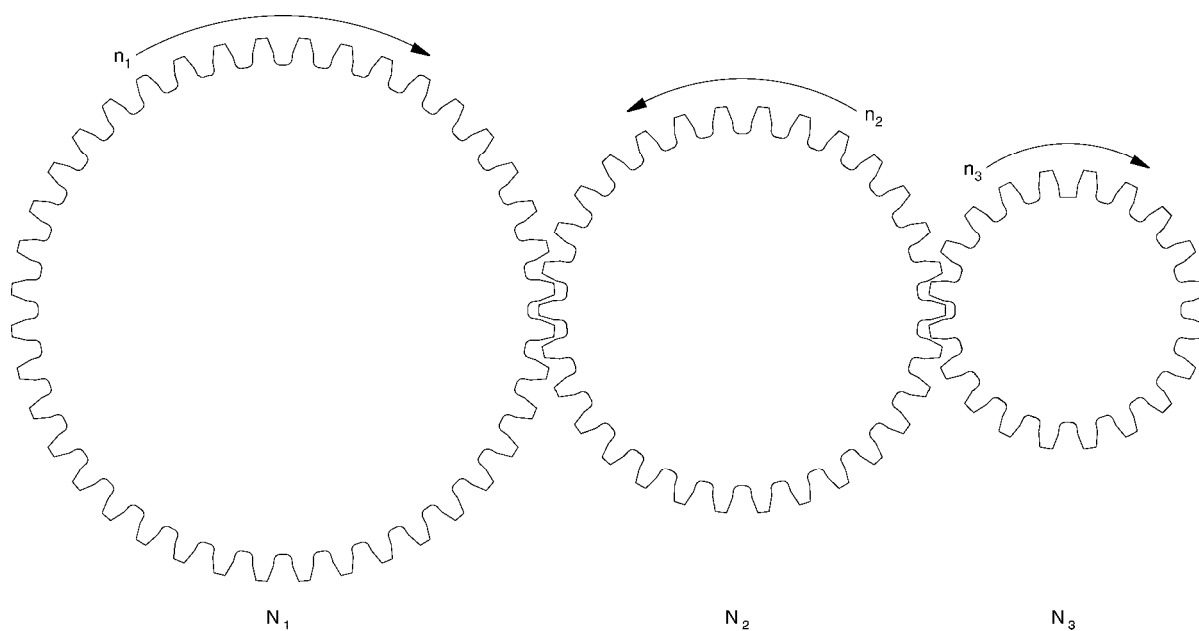

Figure 7-1. Simple gear train.
- ☐ 3. Given that, in Figure 7-1, the speed of gear N_3 is calculated with the equation $n_3 = n_1 \frac{N_1}{N_3}$, what can you conclude about the influence of gear N_2 on the speed of gear N_3 ?